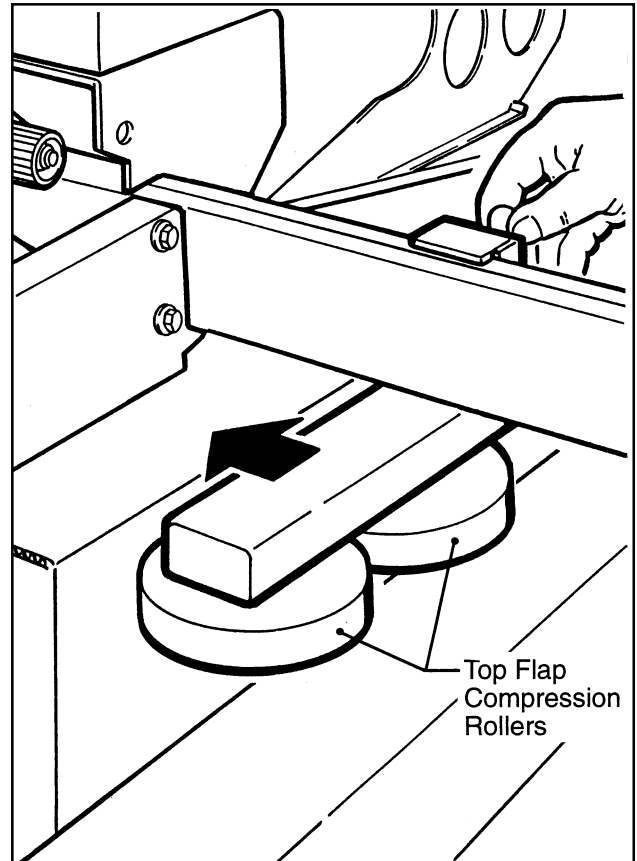

Figure 3-10 – Box Size
6. COMPRESSION ROLLERS (Figure 3-10)